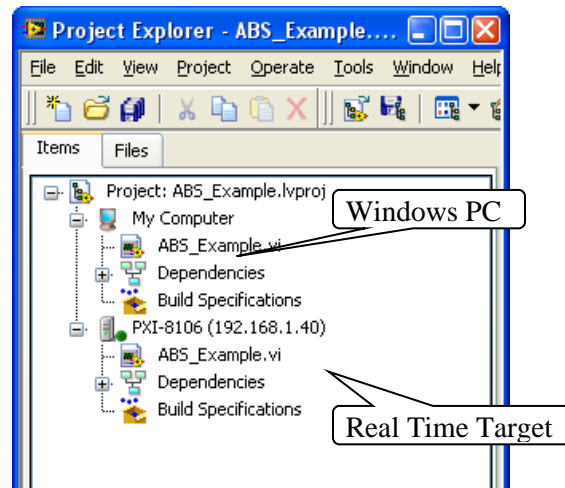
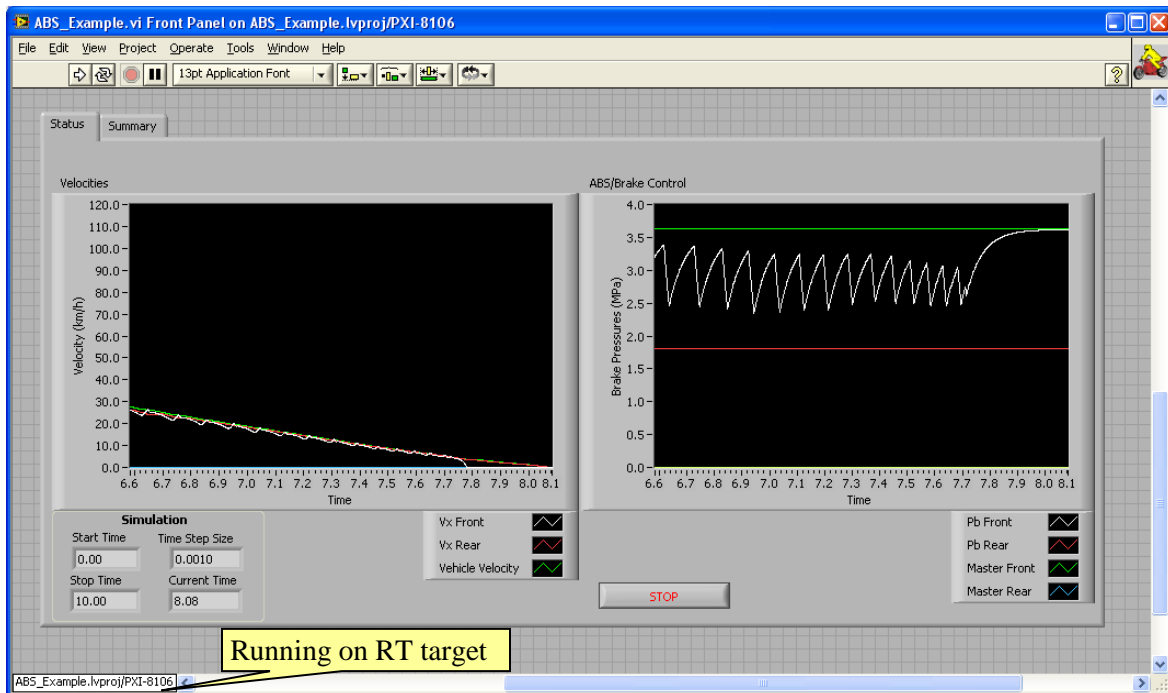

Figure 9. LabVIEW project with ABS example.
Figure 10. LabVIEW model running on the real time target.
In this example (Figure 9), there are two nodes (computers) containing the model file (VI file): *My Computer* (Windows host PC) and *PXI-8106* (LabVIEW RT target PC). You can run this example on either computer because there is no hardware included, but this document describes how to run on an RT target PC.
2. Double click `ABS_Example.vi` on the real time node (Figure 9) to open the example on the real time target (Figure 10).